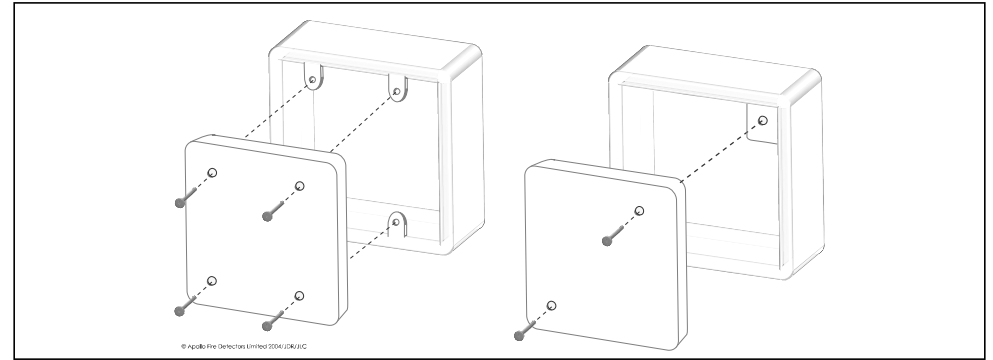

Fig. 1 Mounting the XP95A Sounder Control Module
2. Drill holes in the face plate corresponding to the holes on the mounting box selected (**Fig. 1**).